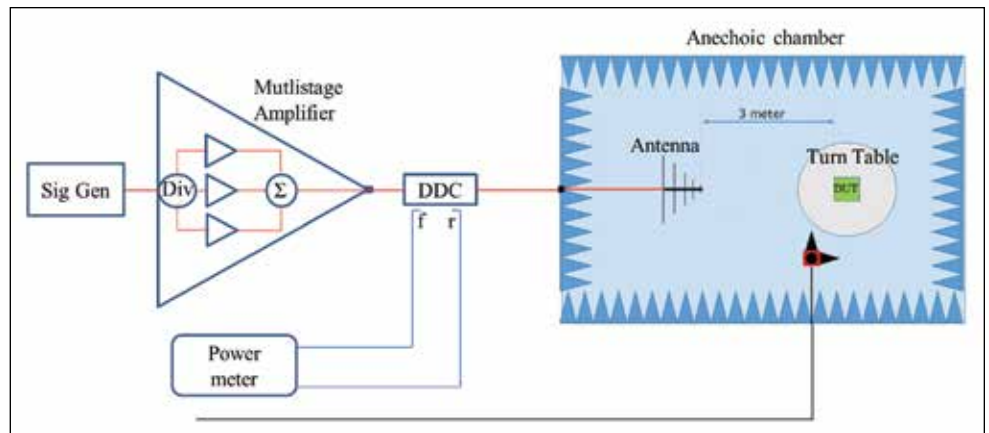

Figure 1: Conventional RI setup
PPS is a polymer made up of alternating sulfur atoms and phenylene rings in a para substitution pattern, as shown in Figure 1. These highly stable bonds give the polymer stability toward thermal degradation and chemical reactivity. Also because of its molecular structure, PPS tends to char during combustion, making it flame retardant. Loading the PPS polymer with carbonyl iron powder allows it to function as an effective microwave absorber, essentially comparable to other carbonyl iron-filled materials with the advantage that it offers excellent short term and long term thermal stability. It has been demonstrated that these composites can also withstand solder reflow conditions as well as being resistant to long term exposure to 200° C. This composite can therefore realize applications as an absorber at the board level. Being thermoplastic, this material can be easily injection molded into complex parts in large production quantities.
A typical radiated immunity (RI) test setup consists of many components including antennas, amplifier, signal generator, power meters, directional couplers and E-field probe. Figure 1 presents a typical RI setup according to IEC 61000-4-3. The DUT is placed on the turntable inside the chamber and is placed 3m away from the tip of the antenna [1]. Typically, long runs of RF cables are used to connect from the amplifier output to the input of the dual directional coupler (DDC), from the coupler's output to the feed-through connector on the chamber wall, and from the chamber feed-through to the antenna input.
The power amplifier is one of the most expensive components in an EMC test system. However, in the conventional EMC RI setup such as the one shown in Figure 1, up to 3-6 dB of an amplifier's rated power is lost at multiple stages in the setup itself (see Table 1).